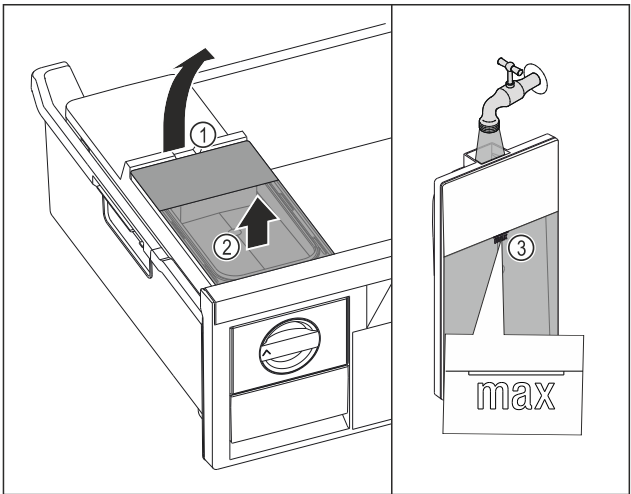

Fig. 149
- Lift the water tank at the recess Fig. 149 (1).
- Remove the water tank by lifting it upward. Fig. 149 (2)
- Fill the water tank with drinking water up to the mark Fig. 149 (3).